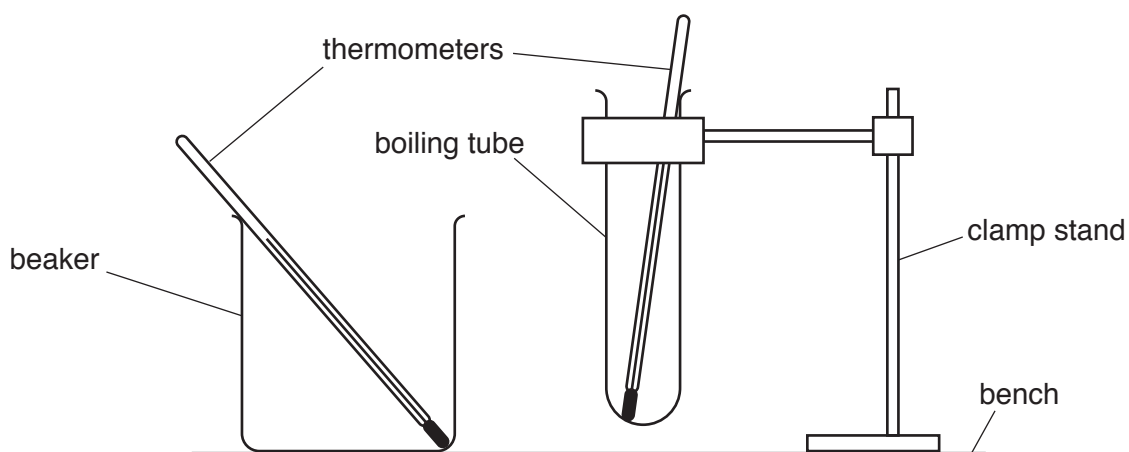

Fig. 2.1
1. The apparatus is to be set up for candidates as shown in Fig. 2.1. The boiling tube must be a small distance above the base of the beaker. Candidates must be able easily and safely to read temperatures up to 100°C and to move the boiling tube into the beaker.
Check that the apparatus is intact and is arranged as in Fig. 2.1.